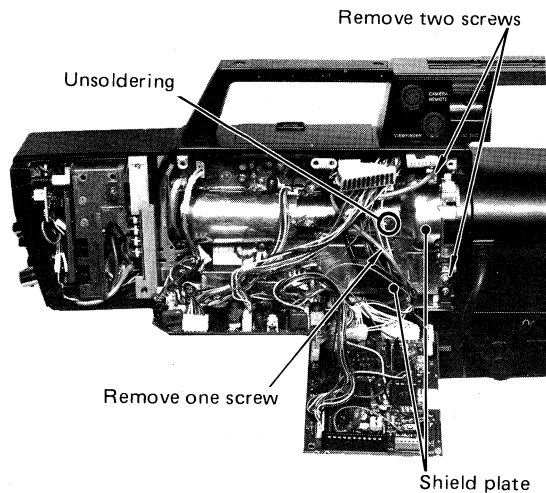

Fig. 4-2-17
- Remove four screws and unsolder one point holding the shield plate and remove the coil holder shield plate. (Fig. 4-2-17)